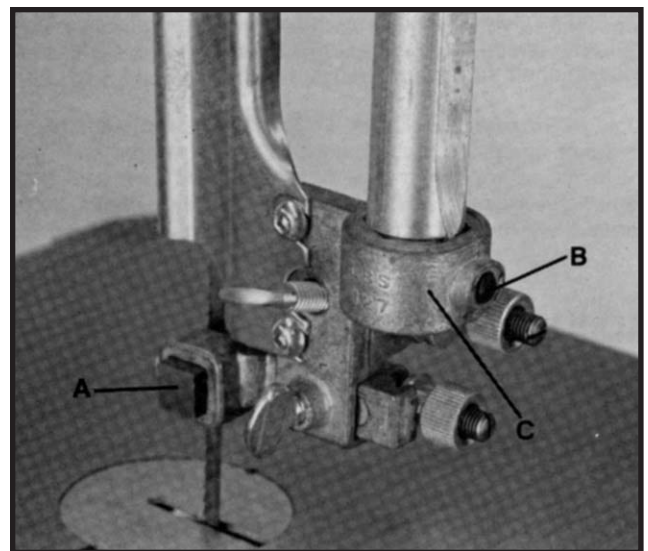

Fig. 22
The upper blade guide assembly should also be adjusted so that the blade guides (A) Fig. 22, are flat with the blade. If an adjustment is necessary, loosen screw (B) and rotate the complete guide assembly (C) until the blade guides are flat with the blade.